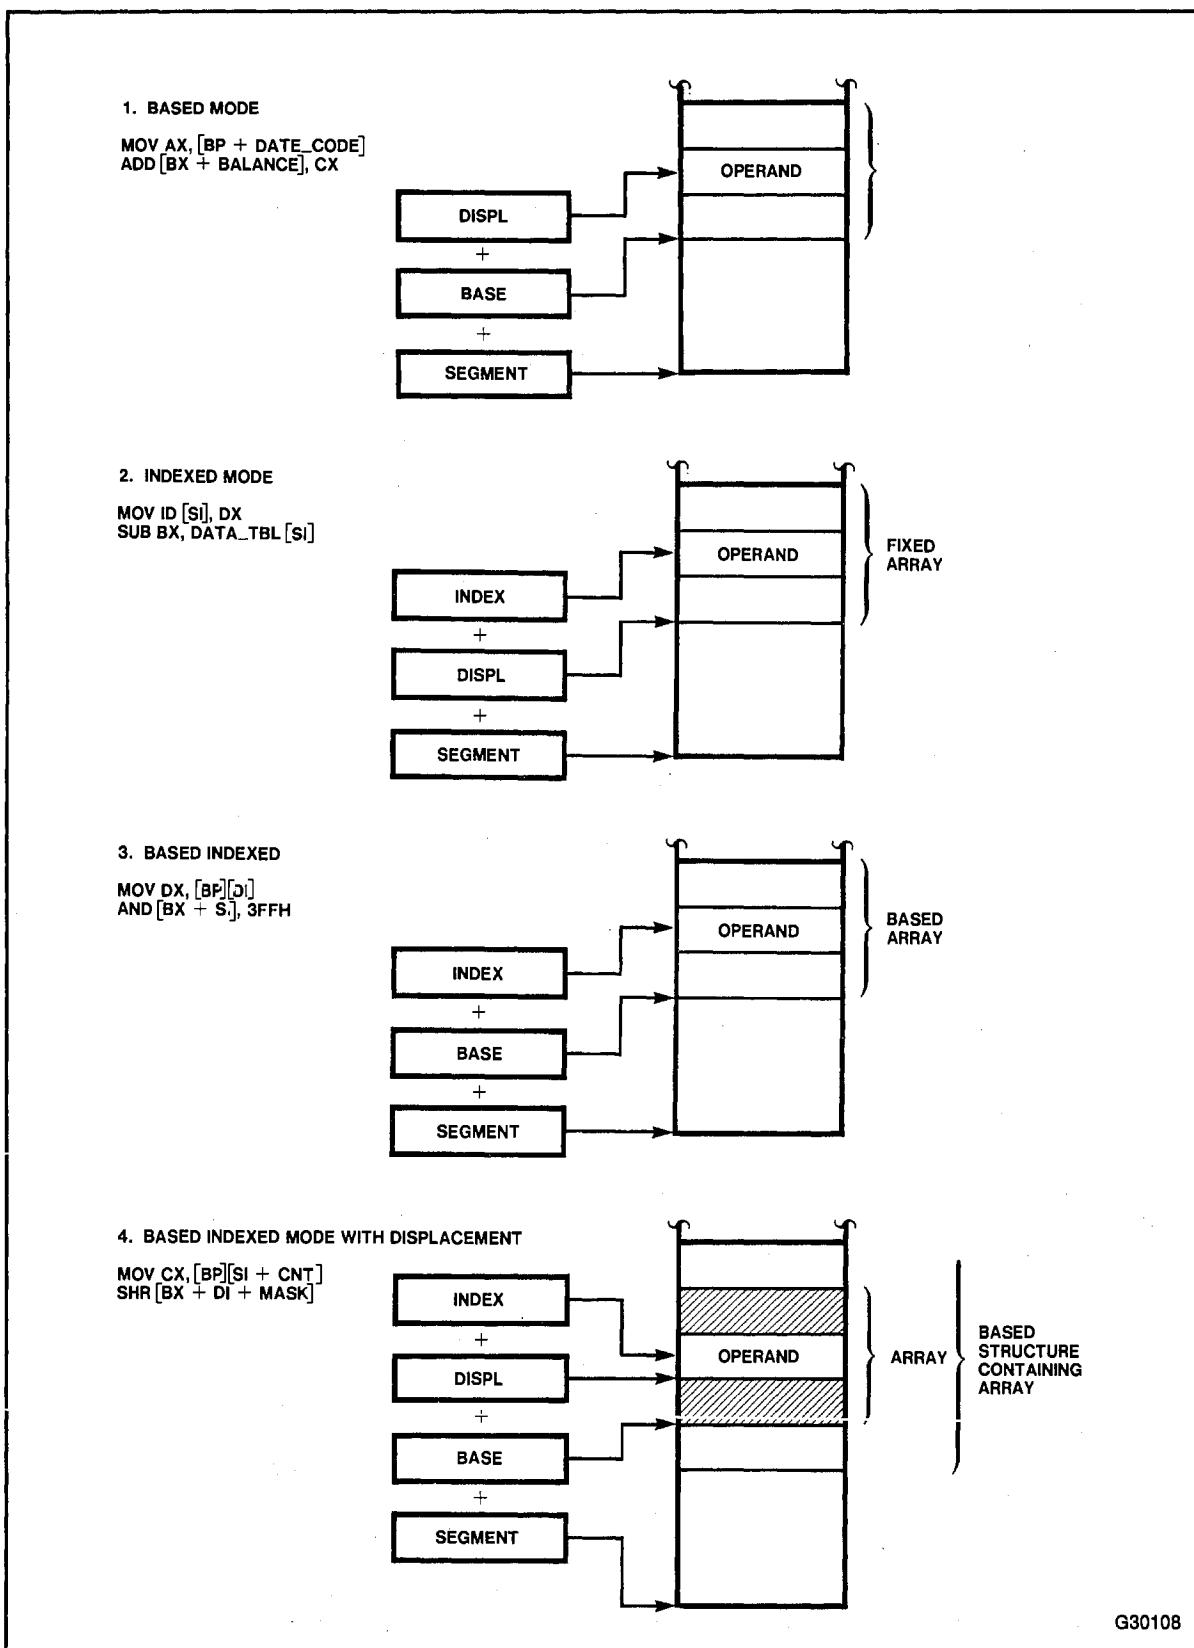

Figure 2-13. Complex Addressing Modes
The following four modes are used for accessing complex data structures in memory (see figure 2-13):
- Based Mode. The operand is located within the selected segment at an offset computed as the sum of the displacement and the contents of a base register (BX or BP). Based mode is often used to access the same field in different copies of a structure (often called a record). The base register points to the base of the structure (hence the term “base” register), and the displacement selects a particular field. Corresponding fields within a collection of structures can be accessed simply by changing the base register. (See figure 2-13, example 1.)
- Indexed Mode. The operand is located within the selected segment at an offset computed as the sum of the displacement and the contents of an index register (SI or DI). Indexed mode is often used to access elements in a static array (e.g., an array whose starting location is fixed at translation time). The displacement locates the beginning of the array, and the value of the index register selects one element. Since all array elements are the same length, simple arithmetic on the index register will select any element. (See figure 2-13, example 2.)
- Based Indexed Mode. The operand is located within the selected segment at an offset computed as the sum of the base register’s contents and an index register’s contents. Based Indexed mode is often used to access elements of a dynamic array (i.e., an array whose base address can change during execution). The base register points to the base of the array, and the value of the index register is used to select one element. (See figure 2-13, example 3.)
- Based Indexed Mode with Displacement. The operand is located with the selected segment at an offset computed as the sum of a base register’s contents, an index register’s contents, and the displacement. This mode is often used to access elements of an array within a structure. For example, the structure could be an activation record (i.e., a region of the stack containing the register contents, parameters, and variables associated with one instance of a procedure); and one variable could be an array. The base register points to the start of the activation record, the displacement expresses the distance from the start of the record to the beginning of the array variable, and the index register selects a particular element of the array. (See figure 2-13, example 4.)